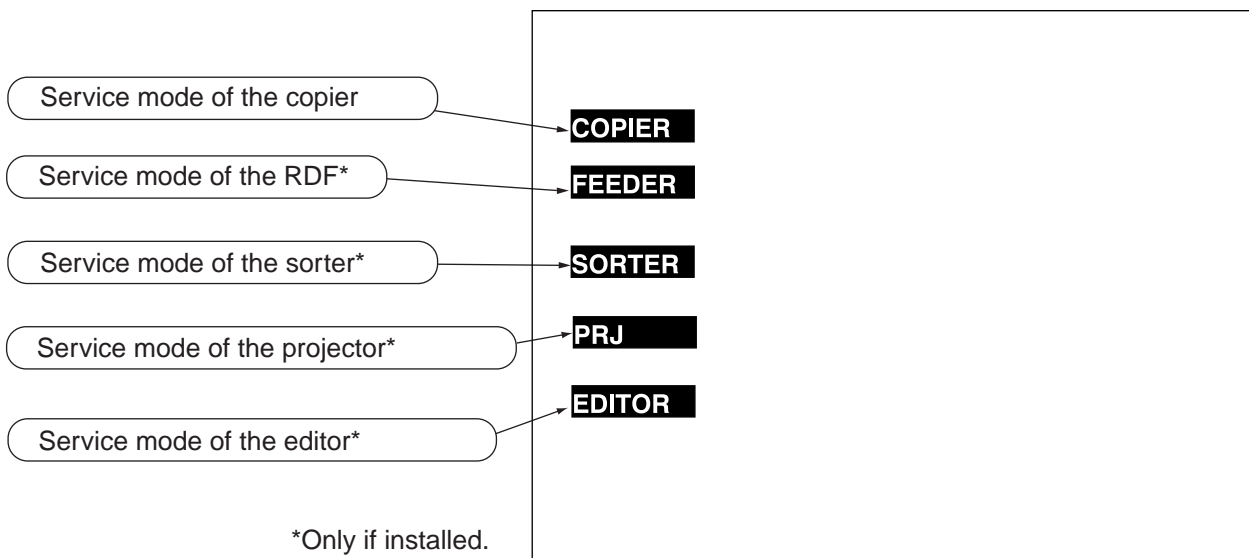

Figure 13-703 Initial Screen
- Press the Reset key once to bring back the service mode Initial screen (Figure 13-703).